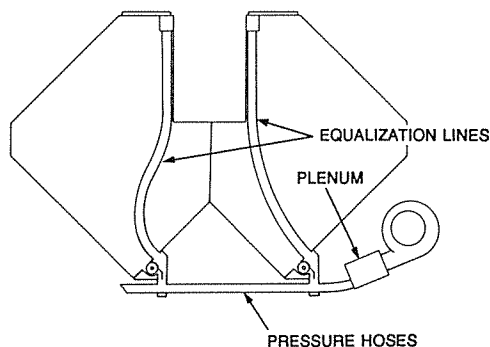

Figure 32
- Check tank pressure hoses and equalization lines for leaks, cracks or plugging. (See Fig. 32).
- Check plenum and metering body for leaks. (See Fig. 32).